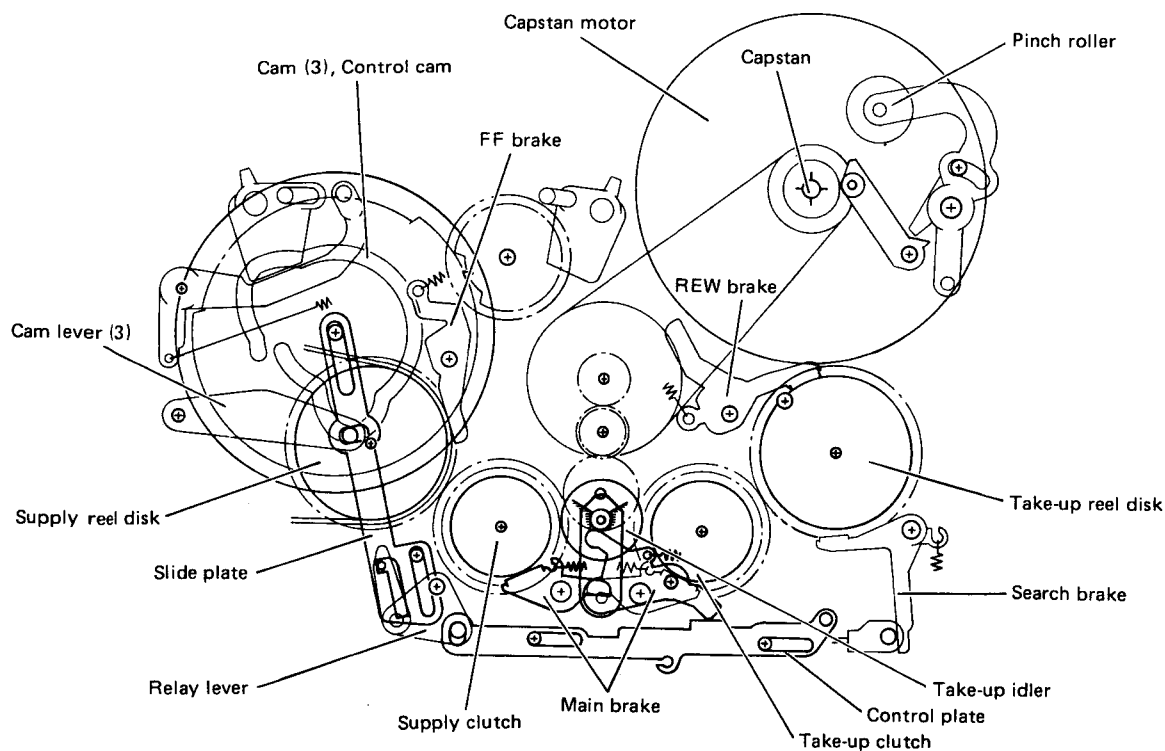
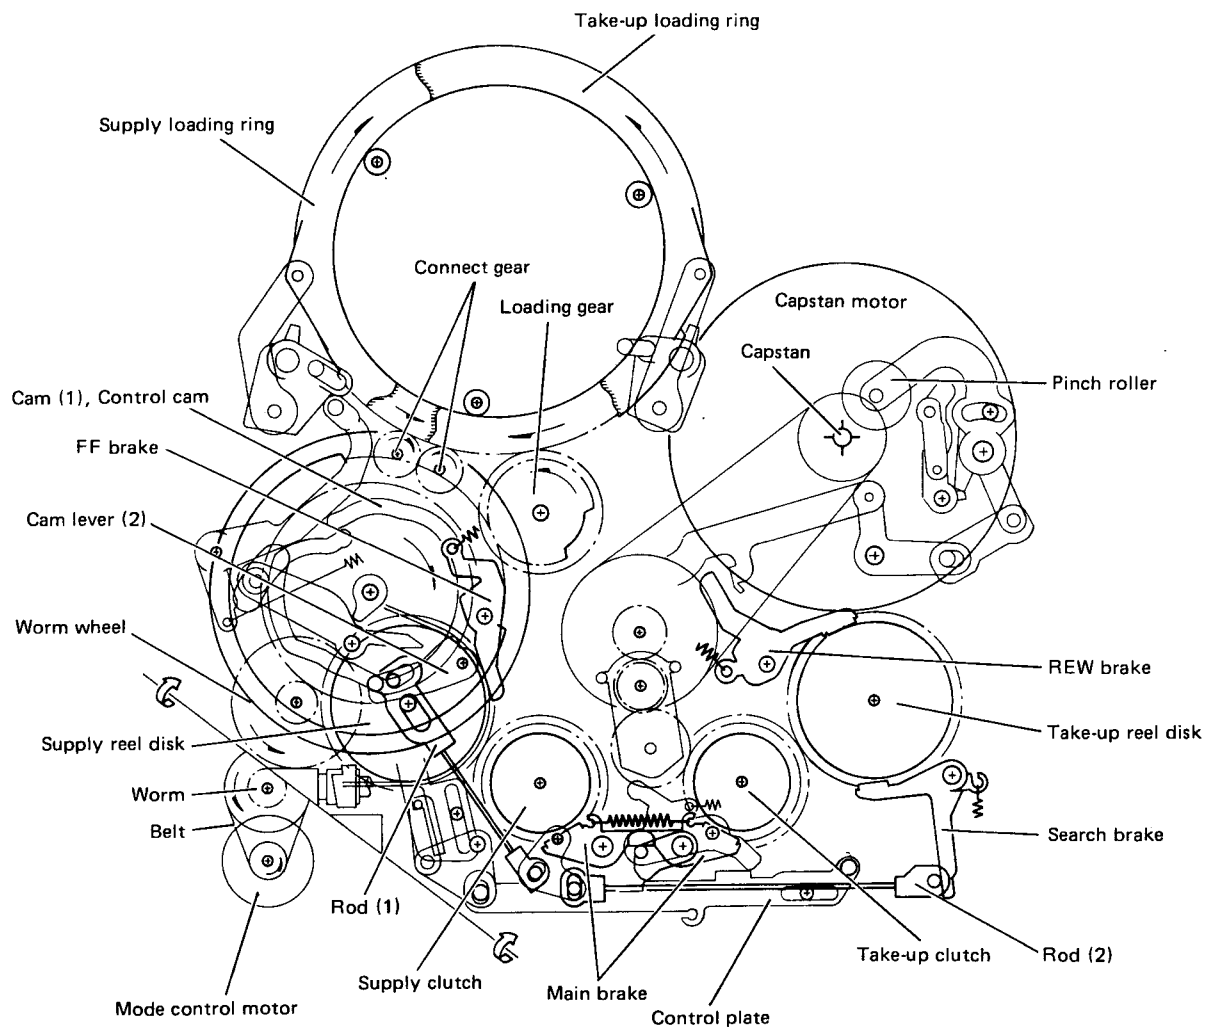

Fig. 7-5-4 Stop mode
Fig. 7-5-5 Loading motion
4. The search brake is off the reel disk by function of the cam (1). (Fig. 7-5-5)
3. The search brake is off the reel disk by function of the cam (1). (Fig. 7-5-5)
4. By function of the cam (2) the pinch roller is in contact with the capstan for tape travel.
5. The rod (2) is off the lock plate.
6. The capstan motor rotates to transport tape from the SUP side to the TU reel in the FF mode, for example. (Fig. 7-5-4)